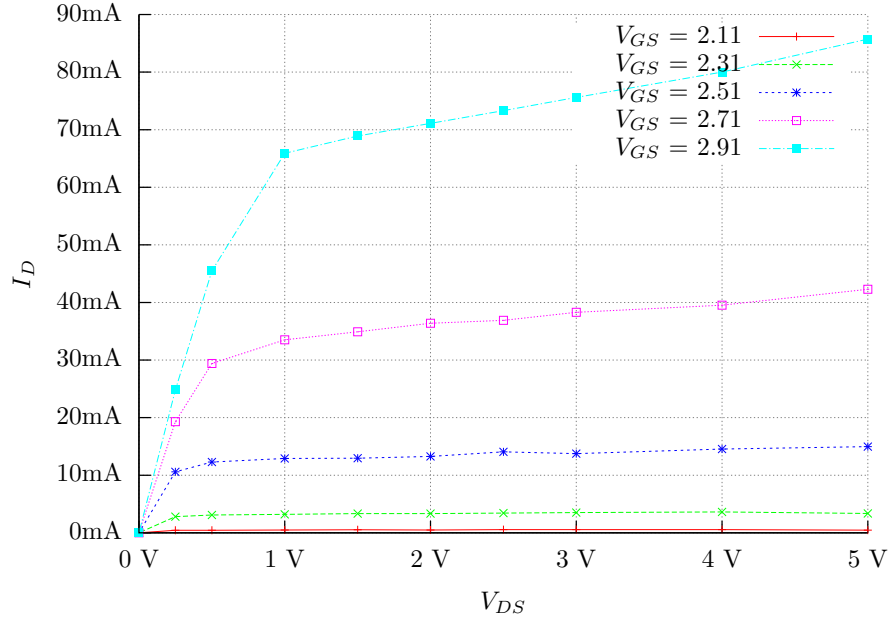

Figure 2: Graph
2. Construct the circuit of figure 2. Use the HP multi-meter to measure the drain current, I_D , and the Fluke multi-meters to measure V_{DS} and V_{GS} . Use the $+6\ \text{V}$ power supply for V_{GG} and the $+25\ \text{V}$ supply for V_{DD} .
Its hard to compare the Figure 2 plot with the 2N7000 data sheet because the data sheets lowest V_{GS} curve is 3 V, which is still higher than the highest V_{GS} curve in Figure 2. However, it is still apparent that the V_{GS} curve of 2.91 V in Figure 2 is similar to the 3 V curve because the V_{OV} points are roughly the same with a V_{DS} value of 1–1.5 V. After the V_{OV} point, both curves taper off and have a very slight positive slope.
Its easier to compare Figure 2 plot with the PSpice simulation because the V_{GS} are closer to the values seen in Figure 2. Again the V_{OV} values are similar in both the plot and the simulation. But, the PSpice simulation curves are flat at points beyond the V_{OV} instead of sloped like it is in Figure 2.
The second PSpice simulation was more representative of the Figure 2 plots because the value of λ was changed from 0 to 0.06, which made the V_{GS} curves slope beyond the V_{OV} . Adding the λ also raised the I_D current for the individual V_{OV} points. This is because the λ value represents the slight resistance that is inherent to the transistor a low λ value is a higher resistance and a high λ is a lower resistance because the resistance is the inverse of the λ .